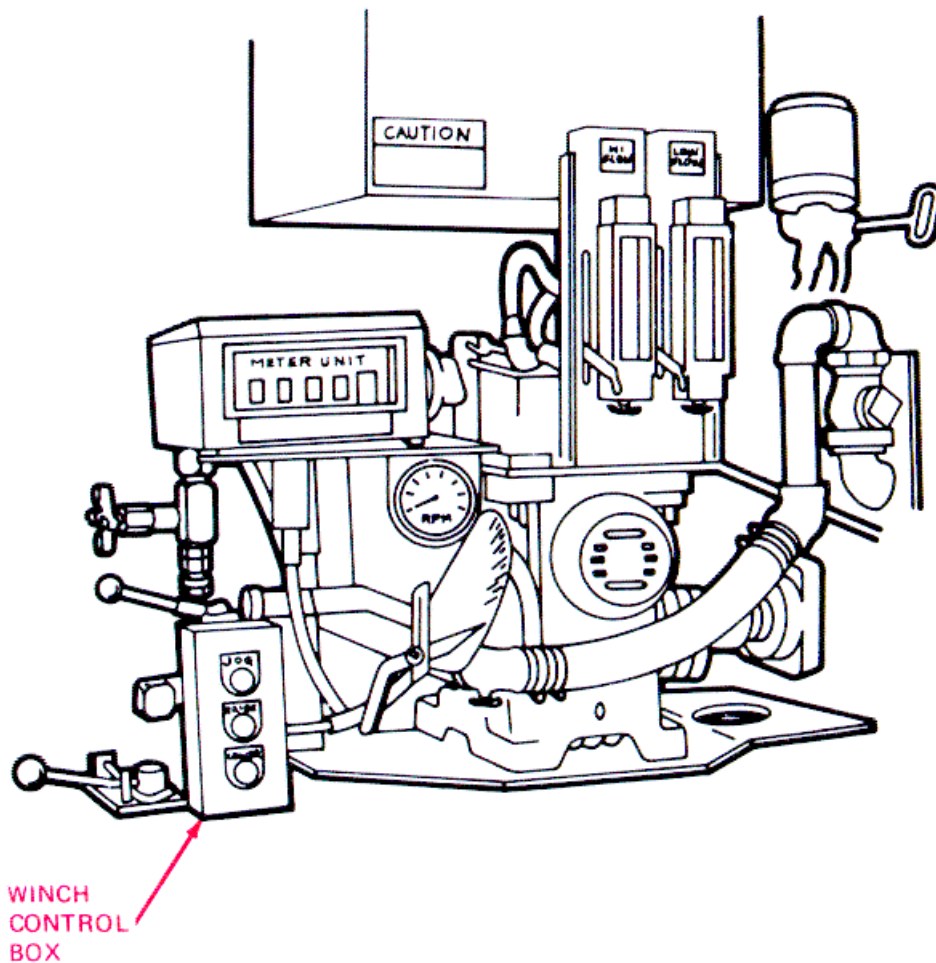
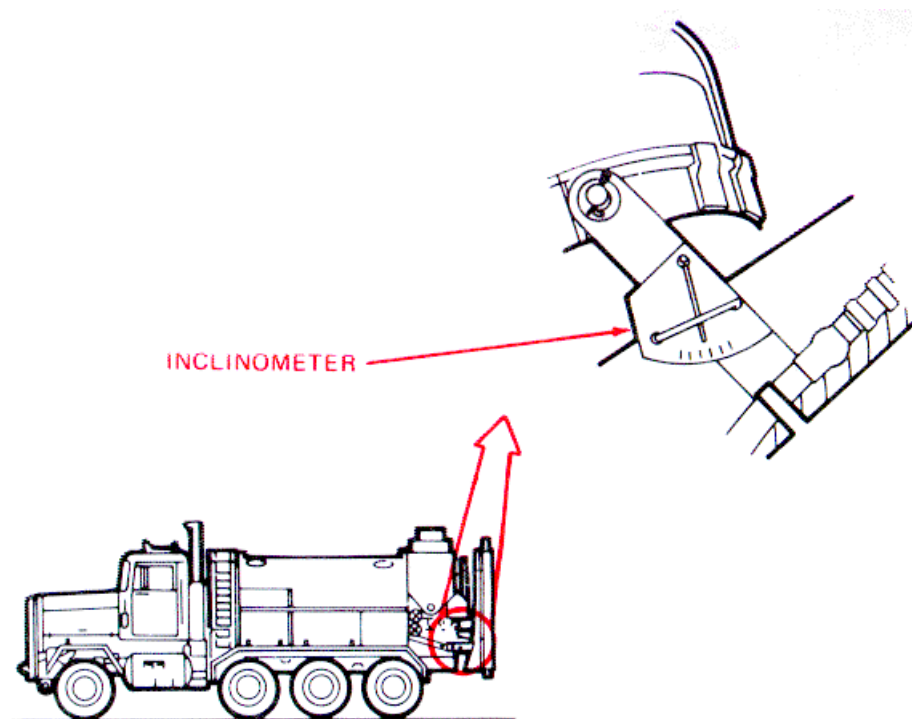

Figure 2-28. Winch Control Box.
Figure 2-29. Inclinometer.
If the locking arm is stuck, push and release the JOG and the RAISE buttons at the same time. Jog the trough upward only enough to release the locking arm (fig. 2-28).
- (3) Press the LOWER button to lower the trough (fig. 2-28). The inclinometer should read 15-25° (fig. 2-29). If you need to raise the trough, push the RAISE button.